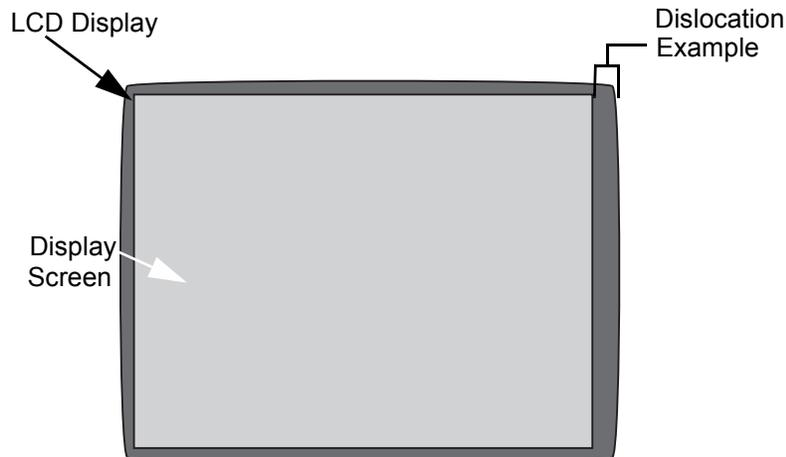

Figure 6-91 Example of LCD Bad balance
- Proper balance of the LCD display as shown in Figure 6-91